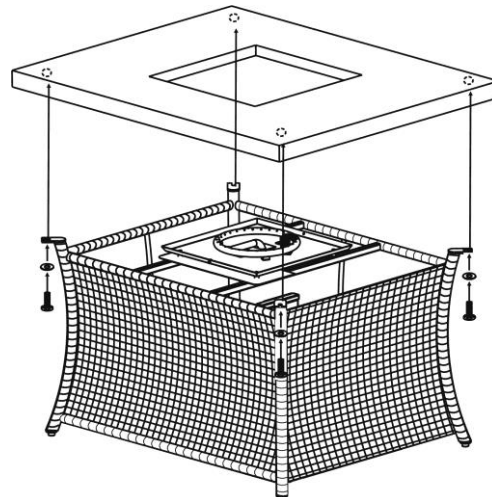
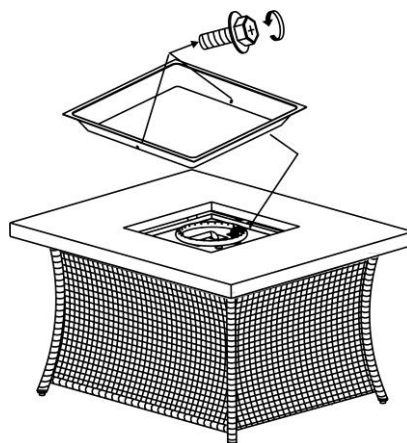

Figure 3
Figure 4
2. Place the firepit tabletop (not included) onto the firepit base. Secure the tabletop to the firepit base by using the 1/4 x 20 mm bolts and washers that are provided. See Figure 3.
3. There are two factory assembled M4 screws in the firepan/burner assembly. Remove those two screws and place the burner pan protective ring into the burner as shown in Figure 3. Secure the burner pan protective ring to the burner pan by using the two M4 screws as shown in Figure 4.